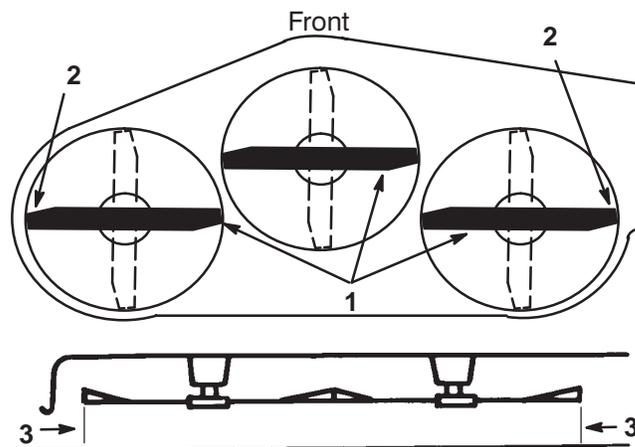

Figure 8
3. Carefully rotate blade(s) side to side (Fig. 8). Measure between the outside cutting edges and the flat surface (Fig. 8). If both measurements are not within 3/16”, an adjustment is required; refer to steps 4 and 6.